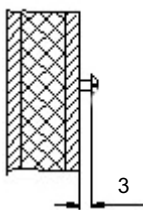

Fig. 10
2. Insert one of the wood screws into the upper middle hole (Illust.9). This screw will be the mounting point for the control unit. Make sure the screw is projecting out from wall about 3 mm. (fig. 10)